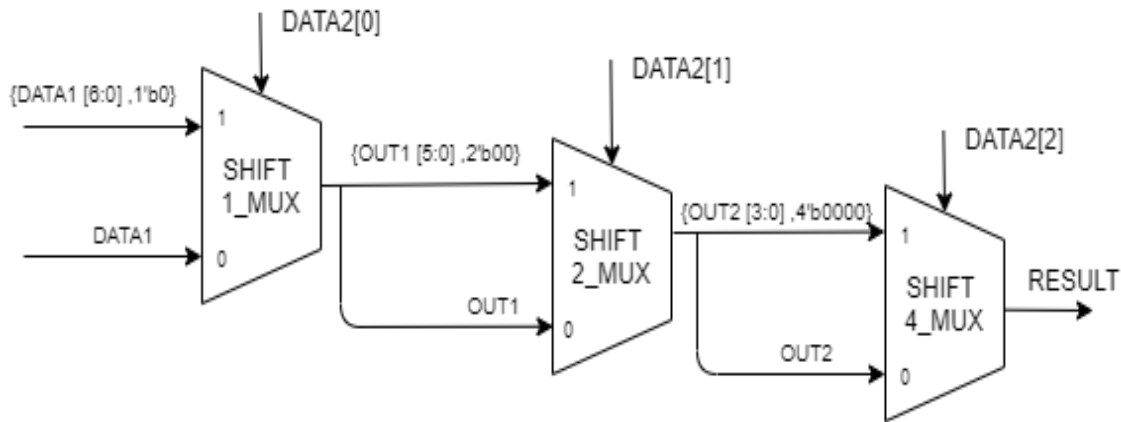

Figure 2: Left shift module
- Left shifting is done inside the ALU using 3 MUX modules as shown in figure 2.